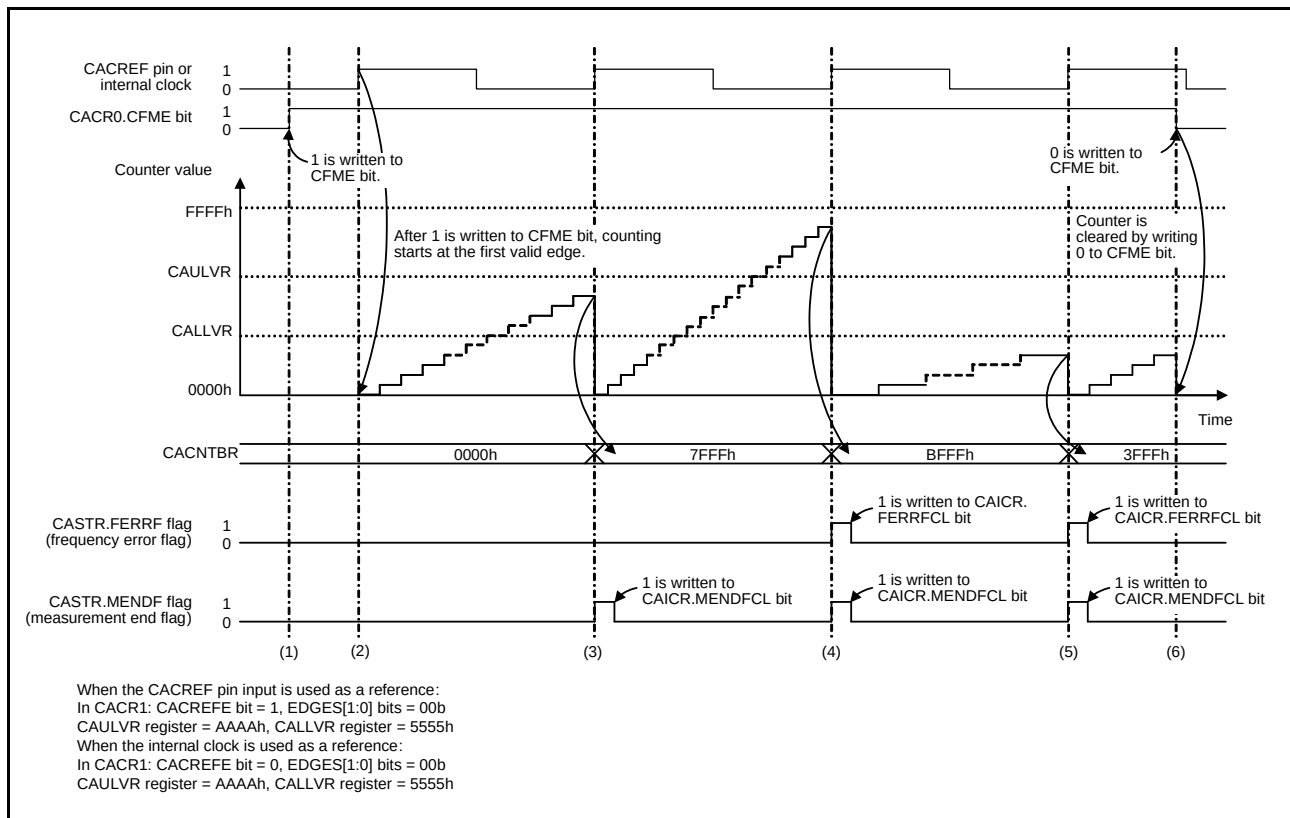

**Figure 10.2 Operating Example of Clock Frequency Accuracy Measurement Circuit**
The clock frequency accuracy measurement circuit measures the clock frequency using the CACREF pin input or the internal clock as a reference. Figure 10.2 shows an operating example of the clock frequency accuracy measurement circuit.
- (1) When the CACREF pin input is used as a reference (the CACR1.CACREFE bit = 1), clock frequency measurement is enabled by writing 1 to the CACR0.CFME bit while the CACR2.RPS bit is 0 and the CACR1.CACREFE bit is 1. On the other hand, when the internal clock is used as a reference (the CACR1.CACREFE bit = 0), clock frequency measurement is enabled by writing 1 to the CACR0.CFME bit while the CACR2.RPS bit is 1.
- (2) When the CACREF pin input is used as a reference, the timer starts up-counting if the valid edge selected by the CACR1.EDGES[1:0] bits is input from the CACREF pin after 1 is written to the CFME bit. The valid edge is a rising edge (the CACR1.EDGES[1:0] bits = 00b) in Figure 10.2.
When the internal clock is used as a reference, the timer starts up-counting if the valid edge selected by the CACR1.EDGES[1:0] bits is input based on the clock source selected by the CACR2.RSCS[2:0] bits after 1 is written to the CFME bit. The valid edge is a rising edge (the CACR1.EDGES[1:0] bits = 00b) in Figure 10.2.